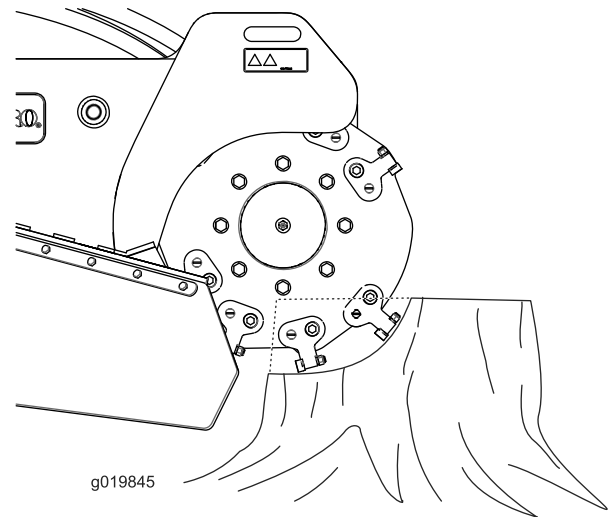

Figure 21
4. Using the grinder control lever, swing the grinder slowly across the face of the stump, cutting away a swath of chips (Figure 21).